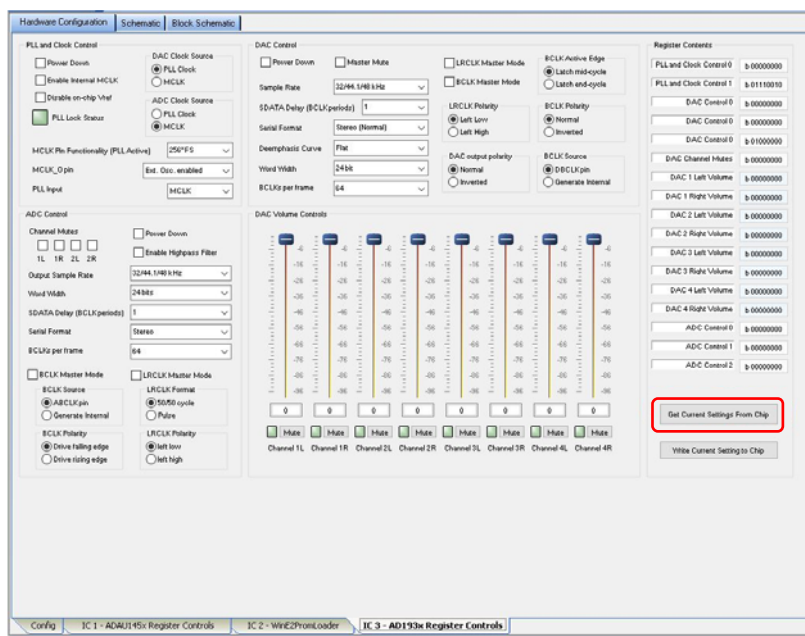

Figure 83. *SigmaStudio* Downloading the Current Codec Settings, Register Dump
After the user sets the registers as desired for the codec, the **Get Current Setting from Chip** button (see Figure 83) can be used to read the registers to the **Capture** window (see Figure 84) to be copied and exported. Use the following procedure to read the registers to the **Capture** window:
2. In the **IC 1 - AD193x Register Controls** tab, click the **Get Current Setting from Chip** button (see Figure 83). Clicking this button performs a register dump of all current codec settings and the register settings are then displayed in the **Capture** window and register control window.